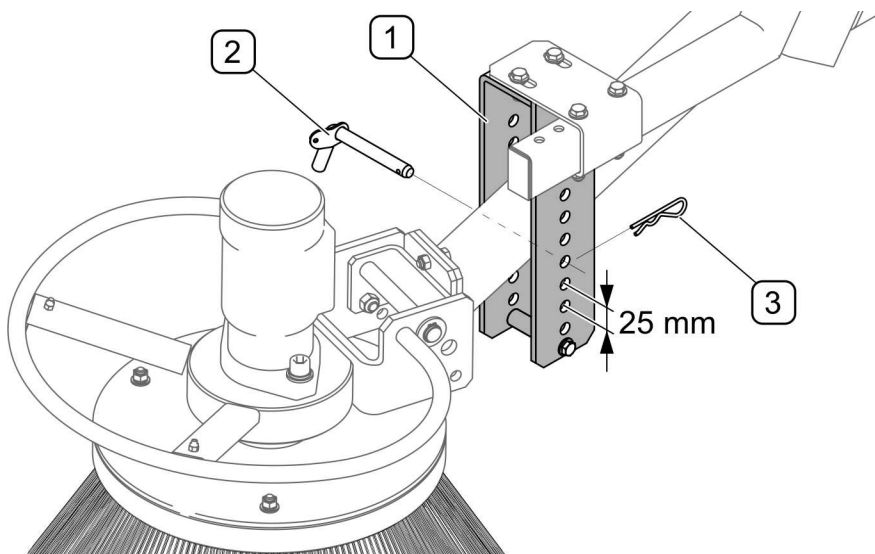

FIG. 5.4 Adjusting side brush pressure
(1) – brush arm guide, (2) – cotter pin, (3) – R-clip
To set the brush pressure (FIG. 5.4), remove the R-clip (3) and change the cotter pin (2) mounting hole in the bracket (1) and secure with R-clip (3).